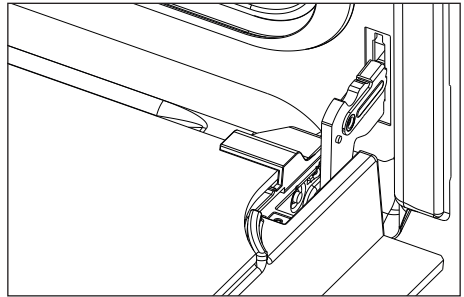

Figure 31
- Open the lever "A" completely on the left and right hinges (fig. 31).
- Gently close the door until left and right hinge levers "A" are hooked to part "B" of the door (figs. 31, 32).